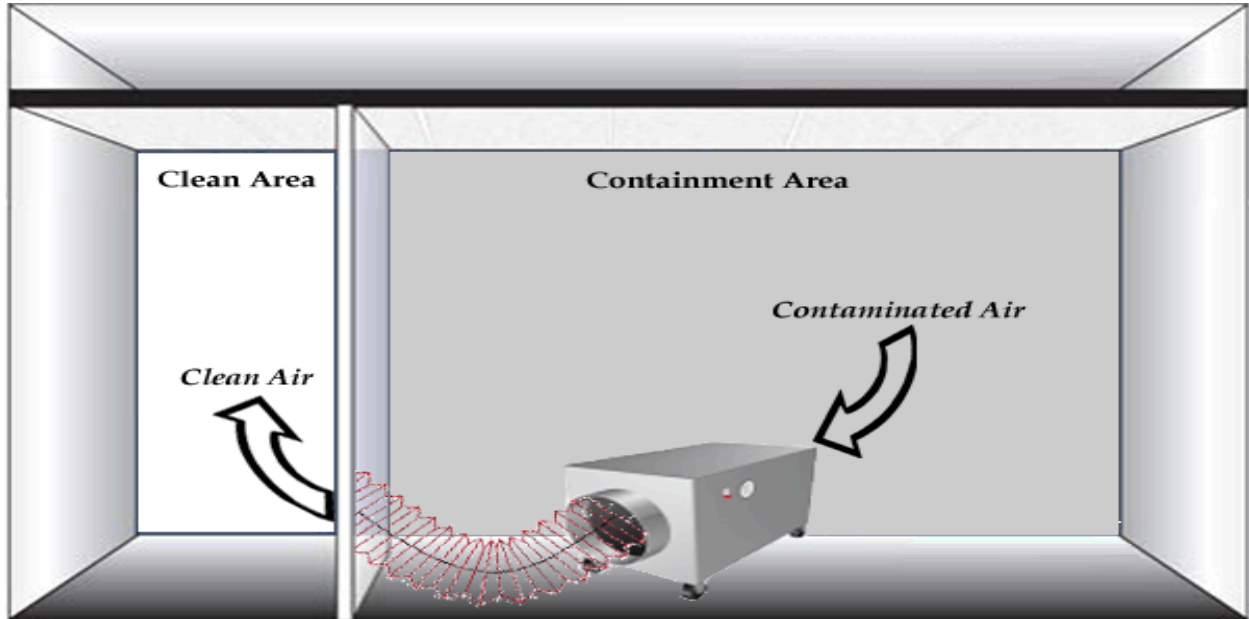

Figure 2
**To create negative pressure inside the containment,** more air has to be exhausted out than leaks into the containment. Place the machine inside the containment and hook a flexible duct to the outlet ring of the machine exhausting to outside the containment. (See Figure 2) All of the air being exhausted has been treated by the HEPA filter so no contaminants are being exhausted from the containment.